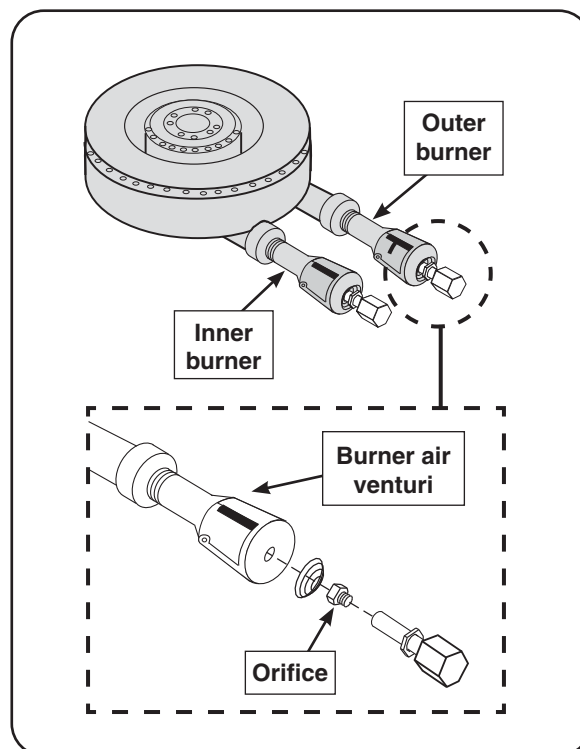

Fig. 48-1 Burner orifice orientation
2. Locate the orifices. The orifice size is stamped on each orifice face (see Fig. 48-1).